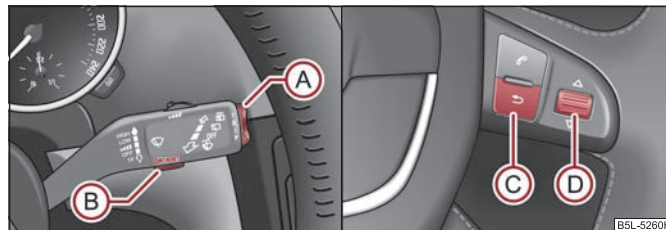

Fig. 19 Multi-functional indicator: Controls on the windshield wiper lever / controls on the multifunction steering wheel
Switching over the memory with the help of the button **(B)** ⇒ fig. 19 on the windscreen wiper lever or with the help of the button **(D)** on the multifunction steering wheel\* ⇒ page 21.
The rocker switch **(A)** ⇒ fig. 19 and the button **(B)** are located on the windshield wiper lever. Switching over and resetting is performed with the handwheel **(C)** ⇒ fig. 19 on the multifunction steering wheel.
If the outside temperature drops below +4 °C, a snow flake symbol (warning signal for ice on the road) appears before the temperature indicator and a warning signal sounds. After pressing the rocker switch **(A)** ⇒ page 21, fig. 19 on the windshield wiper lever or the button **(C)** on the multifunction steering wheel\* ⇒ page 21, fig. 19, the function shown last is indicated.
memory to zero at this moment in time by pressing the button **(B)** ⇒ page 21, fig. 19 on the windshield wiper lever or the handwheel **(D)** on the multifunction steering wheel\* ⇒ page 21, fig. 19 for longer than 1 second.
If you wish to determine the average fuel consumption over a certain period of time you must set the memory to zero at the start of the measurement using the button **(B)** ⇒ page 21, fig. 19 on the windshield wiper lever or with the handwheel **(D)** on the multifunction steering wheel\* ⇒ page 21, fig. 19. A zero appears in the display for the first 100 m you drive after erasing the memory.
The distance driven since the memory was last erased appears in the display ⇒ page 20. If you wish to measure the distance driven of a particular time, you must set the memory to zero at this moment in time by pressing the button **(B)** ⇒ page 21, fig. 19 on the windshield wiper lever or the handwheel **(D)** on the ⇒ page 21, fig. 19 multifunction steering wheel\*.
The average speed since the memory was last erased is shown in the display in km/hour ⇒ page 20. If you wish to determine the average vehicle speed over a certain period of time, you must set the memory to zero at the start of the measurement using the button **(B)** ⇒ page 21, fig. 19 on the windshield wiper lever or with the handwheel **(D)** ⇒ page 21, fig. 19 on the multifunction steering wheel\*.
- Press the button **(B)** ⇒ page 21, fig. 19 on the windshield wiper lever or the handwheel **(D)** ⇒ page 21, fig. 19 on the multifunction steering wheel\*. **Speed warning 50 km/h (warning at 50 km/h)** is displayed in the information display\*. You can increase or reduce this value with the button **(A)** on the windshield wiper lever or by turning the handwheel **(D)** on the multifunction steering wheel\*.
If you now exceed the set speed limit, **Speed 50 km/h exceeded** will be shown in the display. This message is indicated for as long as the speed is reduced below the set limit or switch off the message by pressing the button **(B)** ⇒ page 21, fig. 19 on the windshield wiper lever or the handwheel **(D)** ⇒ page 21, fig. 19 on the multifunction steering wheel\*.